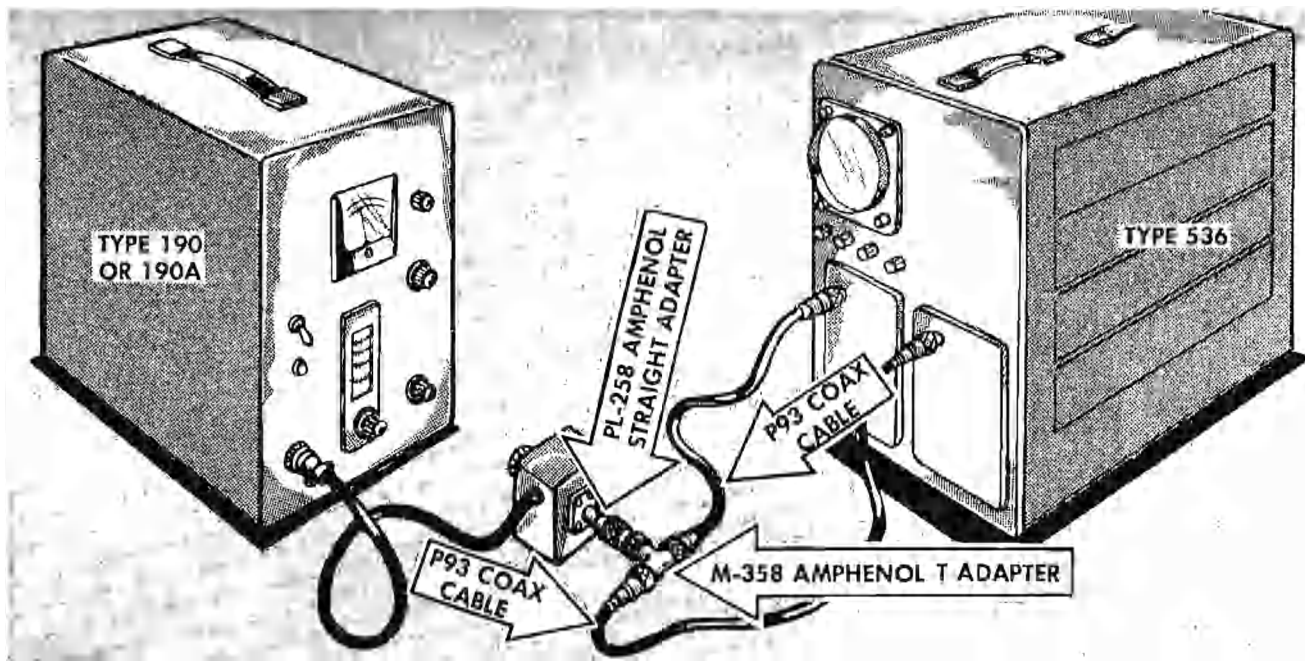
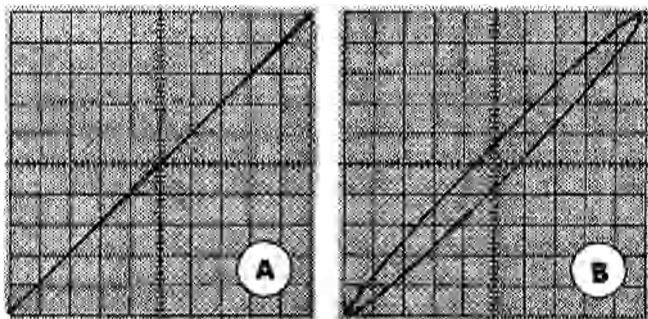

Fig. 6-14. Connecting the Type 190 or 190A Constant-Amplitude Signal Generator to the Type 536.
Fig. 6-15. Checking the range of the AMPLIFIER PHASING control.
Install identical Preamplifier plug-in units in both sections of the Type 536, and connect the Type 190 or 190A Constant-Amplitude Signal Generator to the plug-in units in the manner illustrated in Fig. 6-14. Be sure to have equal cable lengths and terminations. Set both plug-in units to their lowest DC range (.005 on the Type H Unit; .05 on all others), and adjust the Signal Generator for an output frequency of 10 Mc. Adjust the OUTPUT AMPLIFIER control for ten divisions of deflection both vertically and horizontally. This should result in a trace extending from the lower left corner of the graticule to the upper right corner, as shown in Fig. 6-15. The trace may either be a closed loop, as shown in Fig. 6-15(A), or an open loop (ellipse) as shown in (B). Rotate the AMPLIFIER PHASING control until the loop is closed; this corresponds to zero degrees phase difference between the two deflection amplifiers. This does not necessarily have to be at 50, the mechanical mid-range of the AMPLIFIER PHASING control. Now, rotate the AMPLIFIER PHASING control and observe the phase shift (opening of the loop) on either side of the zero-phase point. There should be an equal phase shift in either direction. If this is not observed, adjust C254 until an equal loop opening is observed.